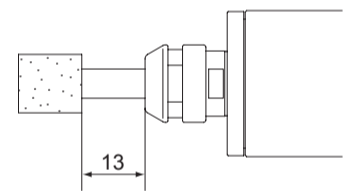

Fig. 21
- 2 Do not exceed 13mm of overhang for mounted grindstones. (Fig. 21)